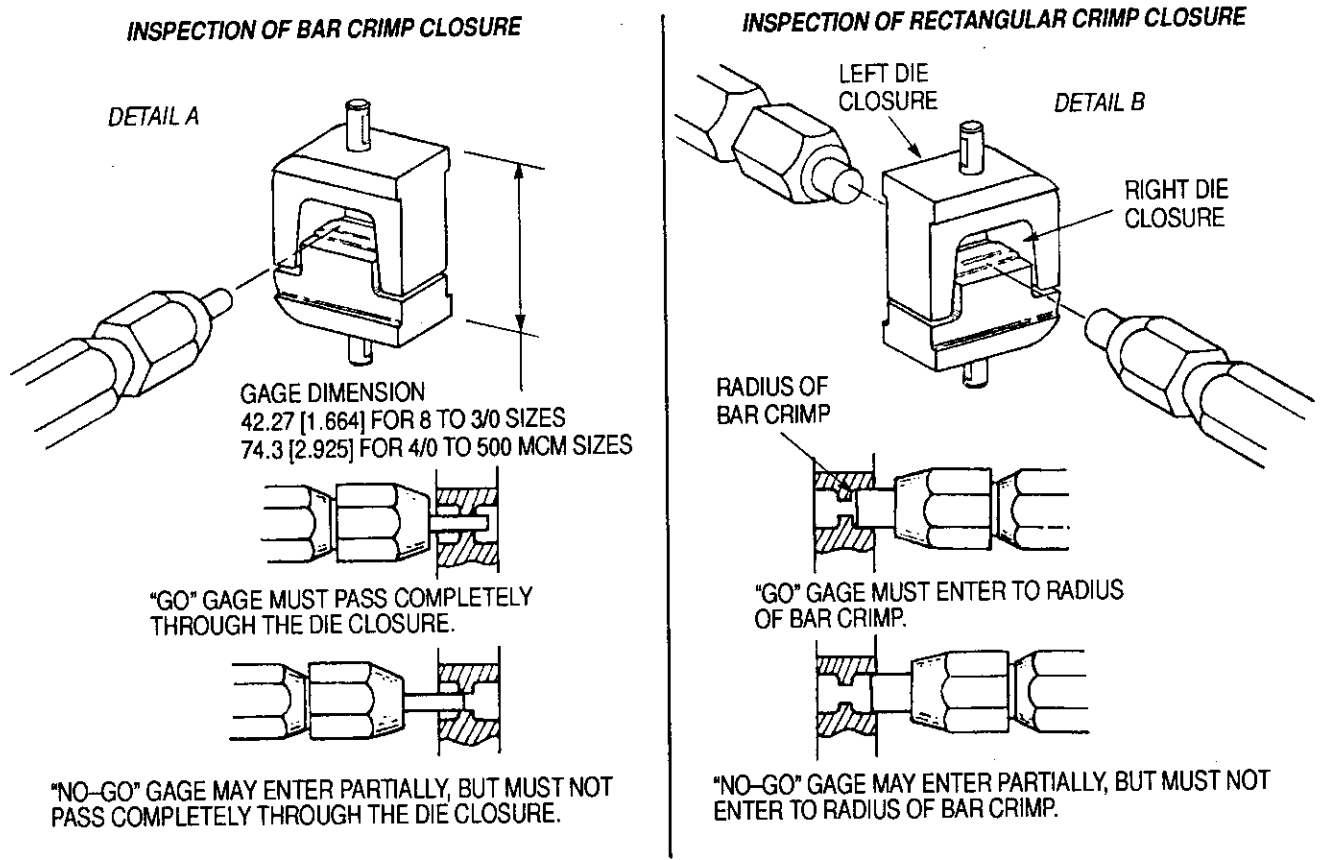

Figure 8
2. Assemble and adjust dies to meet the "gage dimension" indicated in Figure 8, Detail A.
3. With dies positioned at the "gage dimension," inspect the bar crimp closure using the proper plug gage. Align the GO element of the gage with the crimping chamber. Push the element straight into the chamber without using force. The GO element must pass completely through the crimping chamber without using force, as shown in Figure 8, Detail A.
5. With dies positioned at "gage dimension," check the right and left rectangular crimp closures using the proper plug gage in the same manner as Steps 4 and 5; see Figure 8, Detail B.